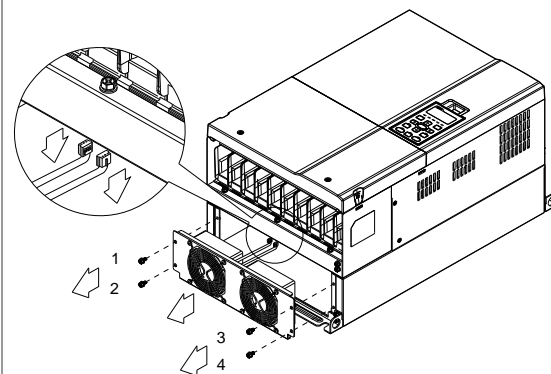

Figure 4
4. (Figure 4) Loosen the screws 1~4. Screw torque: 24~26kg-cm (20.8~22.6in-lbf).